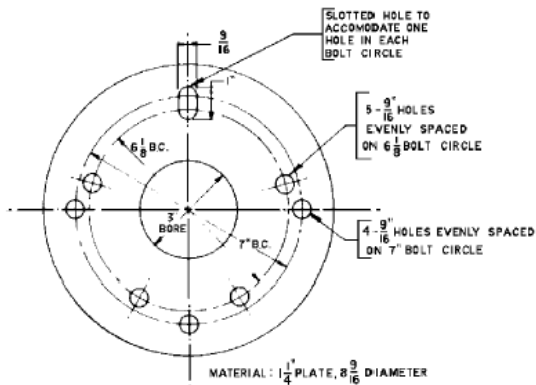
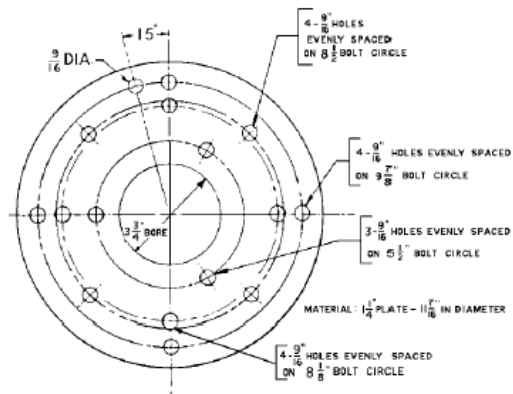
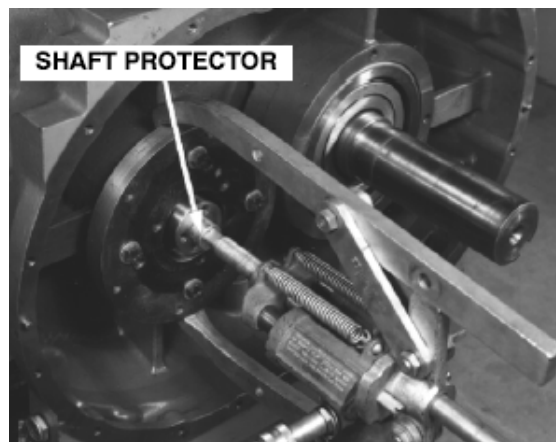

FIGURE 6-1 – ADAPTOR PLATE
FIGURE 6-2 – BEARING PRESS PLATE
FIGURE 6-9 – PULLER
1. Provide adaptor plates, (Figure 6-1), and bearing press plate, (Figure 6-2), for pulling the gear hub and pinion, and for installing the bearings.
2. Provide bearing press plate, (FIGURE 6-2), for pulling the pinion gear and for installing the main rotor bearings. **Pulling directly on pinion teeth will cause gear wear. Pulling directly on the gear hub flange will distort the flange causing gear run-out.** The adaptor plates shown are designed for a jaw type hydraulic puller, (Figure 6-4, and Figure 6-5, page 36 & 37). Other type pullers are available, and if used, suitable adaptor plates should be provided.
9. Rig the plate (shown in FIGURE 6-2, page 36) and the puller shown in (FIGURE 6-9) and press the rotor shaft through the bearings. Use a shaft protector. Be sure the bolts holding the plate are threaded into the tapped holes of the bearing housing far enough to prevent stripping of the threads, and evenly adjust so the plate is square with the shaft. Press one rotor through the bearing at a time, then proceed to Step 10. Repeat Steps 9 and 10 on the second rotor.